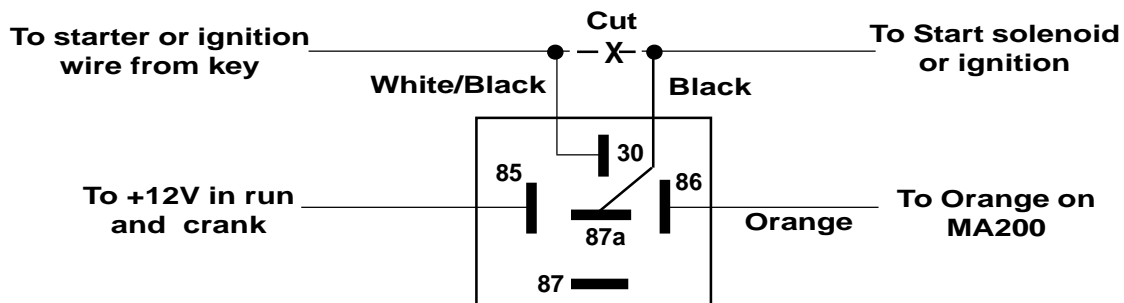

FIGURE 5
This wire can also be connected to disable the starter or ignition. To disable a circuit on the motorcycle, a relay is required (included in the kit). The relay may be used as a horn, park light or starter kill. The relay, whenever possible, should be protected from water, engine heat or grease. **NOTE: Additional relays are available as part #AS-9256.** Additionally, the wire must be cut to remove the series resistor. The wire will then be connected to the optional relay. Refer to Figure 5.
**IMPORTANT!** *When using the relay to disable the starter, leave the BLACK wire in terminal 87a of the relay connector in the location shown in the Figure 5.*
1. Connect the ORANGE wire from the relay harness to the ORANGE wire from the siren harness. Be sure to insulate this splice with electrical tape. Refer to Figure 5. Be certain to remove the series resistor before connecting the relay.